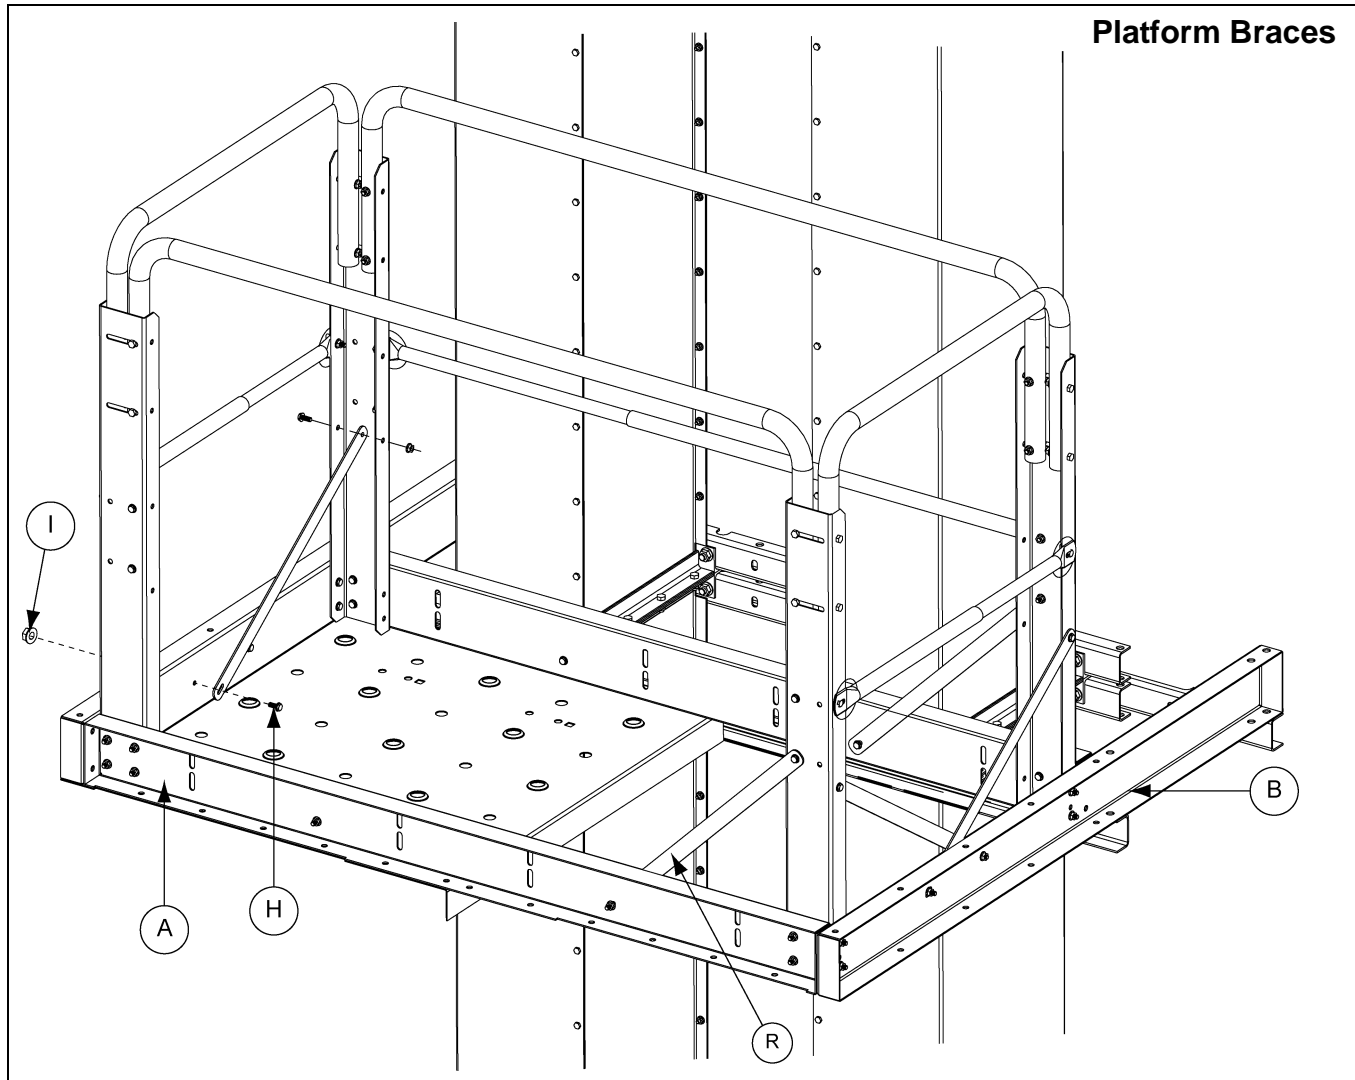

Figure 7M
8. Platform braces must be installed from handrail posts to mounting and cross channels using 5/16" x 3/4" flanged hex bolts. Braces should be attached to the outside of the platform post and to the inside of the mounting and cross channels. **NOTE:** *Safety cage bars (LDR-517BE) are used as platform braces/tie angle braces through out this installation. Bolt heads should be on inside of platforms. (See Figure 7M.)*